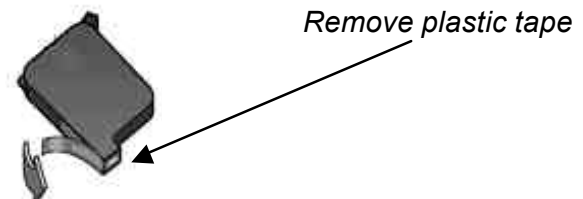

Fig. 4
7. Remove the plastic tape from the print cartridge (Fig. 4 on the next page)